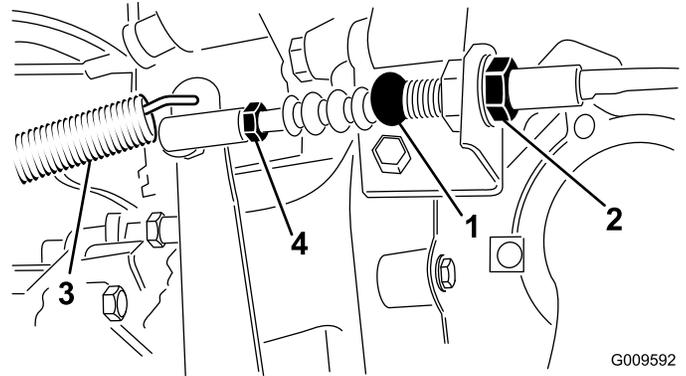

Figure 58
1. Loosen the jam nuts securing the clutch cable to the bracket on the bell housing (Figure 58).